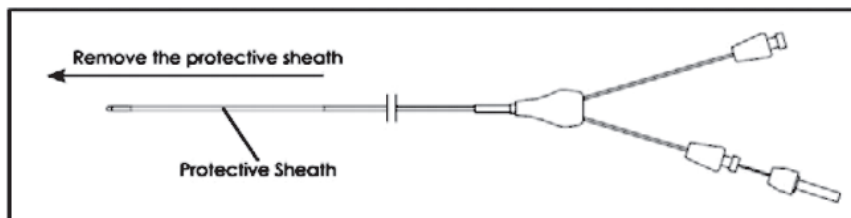

Figure 2
2. Choose the dilation balloon of appropriate size. Remove the protective sheath from the balloon. The dilation balloon comes with a preloaded guidewire. The guidewire can be used as is to access the stricture or removed from the balloon catheter prior to use and back loaded over a pre-positioned guidewire. Prior to advancing the balloon catheter over a pre-positioned guidewire flush the guidewire lumen. (See Figure 2)